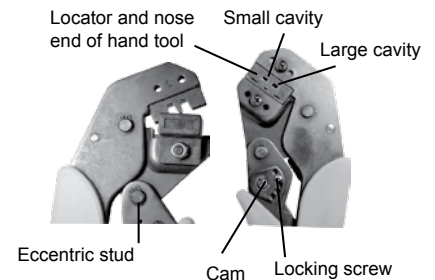

Figure 5
2. To adjust tool to obtain proper force values, open the handles and remove the cam locking screw with the hex key wrench (See Figure 5).